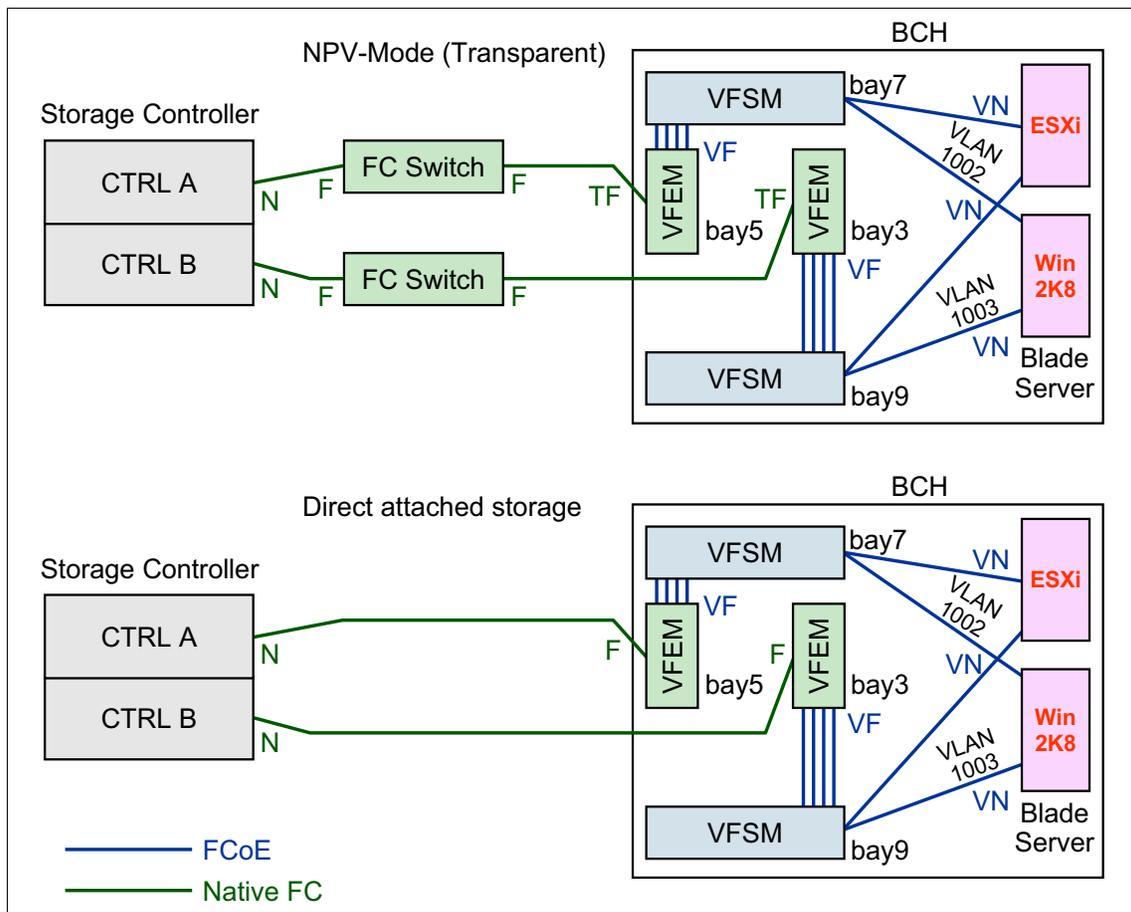

Figure 6-22 FCoE and FC fabric topology
- ▶ In Transparent mode to connect to an external FC fabric (Figure 6-22)
As shown in Figure 6-22 on page 125, the switch in bay 7 will connect to the extension module in bay 5, and the switch in bay 9 will connect to the extension module in bay 3. Each connection results in 40 Gbps of aggregated bandwidth, which in sum, is 80 Gbps full duplex for FCoE traffic to the FC Gateway. Although the BNT Virtual Fabric 10 Gb Switch Module has 10 external 10 Gb ports, this configuration allows use of up to only six external ports on each Virtual Fabric Switch Module. Four external ports of each switch module are disabled (ports EXT1-4 in bay 7 and ports EXT7-10 in bay 9). Those circuits are rerouted to each QLogic Virtual Fabric Extension Module as bridge ports BR5A-BR5D bay 7 and BR3D-BR3A in bay 9.